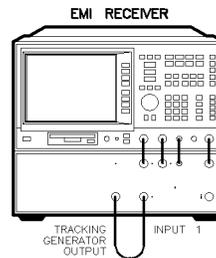

Figure 2-7.
1. Connect the equipment as shown in Figure 2-7.